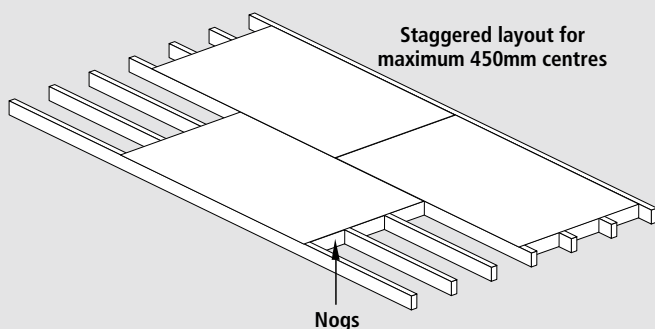

Figure 8.1
- o For joist spacings of 450mm or 400mm, panels can be laid with, or across the joists. (Refer Figure 8.1)